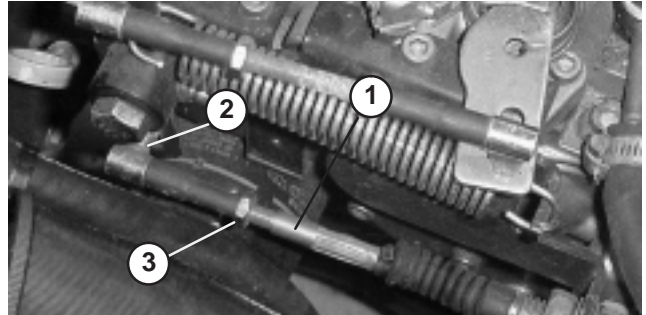

Figure 50
2. Adjust ball joint on accelerator cable (Fig. 50) to allow .100”–.250” of clearance between accelerator pedal arm and top of diamond tread floor plate, when a 25 lb. force is applied to center of pedal. Tighten locknut.